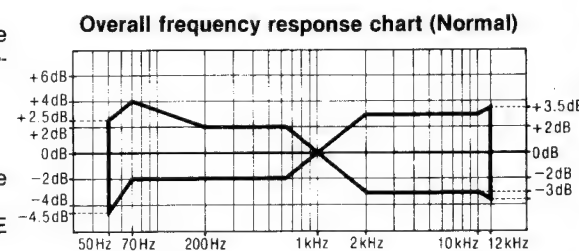
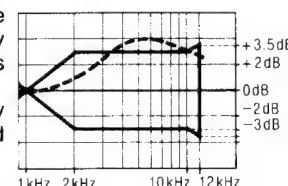
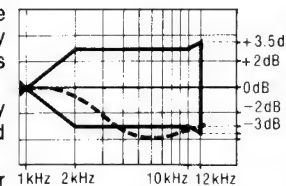

Fig. 12
Fig. 14
Fig. 15
6. Playback the signals recorded in step 6, and check if the frequency response curve is within the limits shown in the overall frequency response chart for normal tapes (fig. 12). (If the curve is within the charted specifications, proceed to steps 7, 8 and 9.)
When the curve exceeds the overall specified frequency response chart (fig. 12) as shown in fig. 14.
- 2) Repeat steps 5 and 6 for confirmation (Proceed to steps 7, 8 and 9 if the curve is now within the charted specifications as shown fig. 12.)
- 3) If the curve still exceeds the specifications (fig. 12), increase bias current further and repeat steps 5 and 6.
When the curve falls below the overall specified frequency response chart (fig. 12) as shown in fig. 15.
- 3) If the curve still falls below the charted specifications (fig. 12), reduce bias current further and repeat steps 5 and 6.